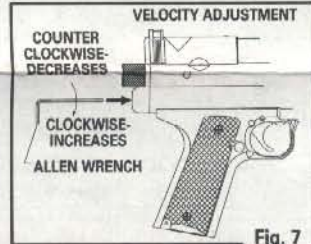

Fig. 7
- To increase the velocity, turn the velocity screw clockwise with a 3/16" Allen wrench (Fig. 7).